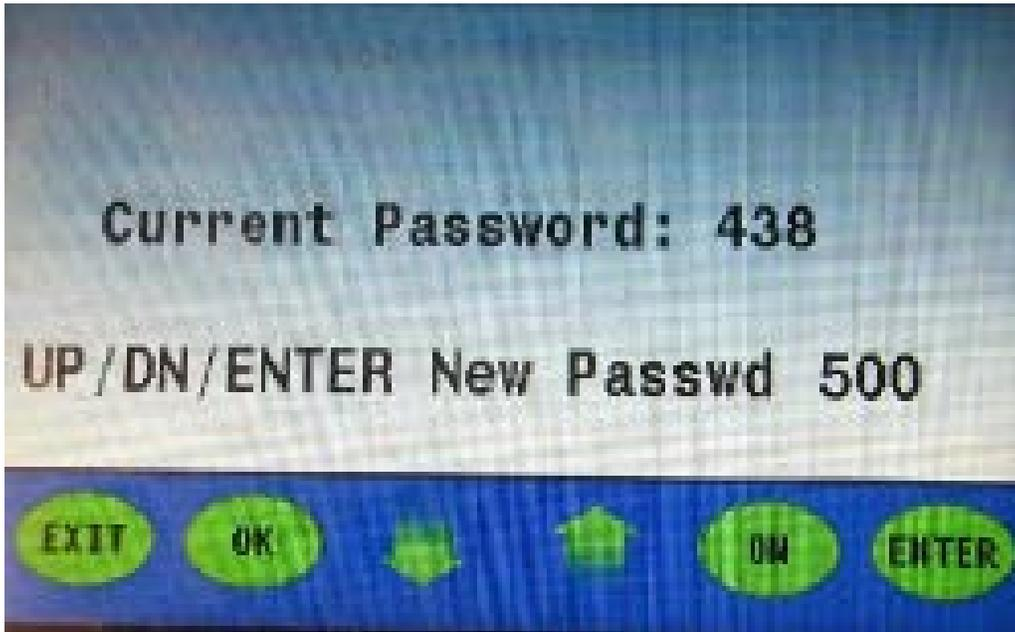

Figure 15
7. To set the first number in the new password sequence, press the **up arrow** (to decrease, use the **down arrow (figure 15)**).